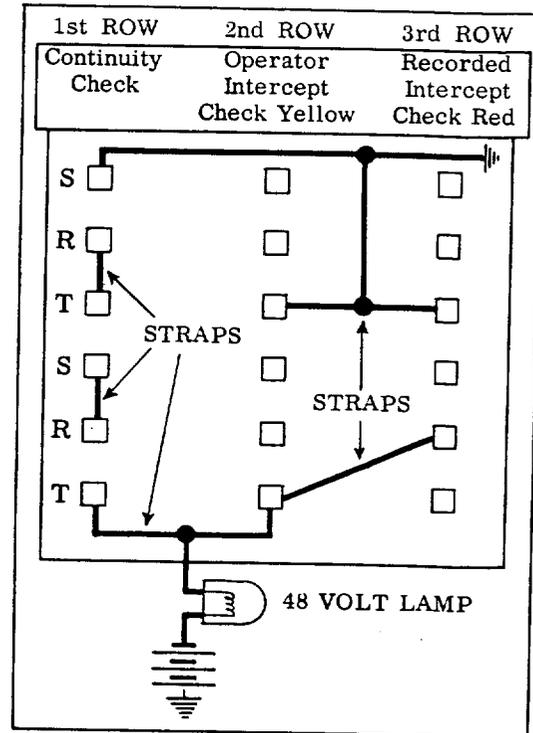

Figure 4 – Test Circuit for Intercepting Connectors
4.01 A test circuit may be made locally to facilitate testing the connectors. (See Figure 4.)